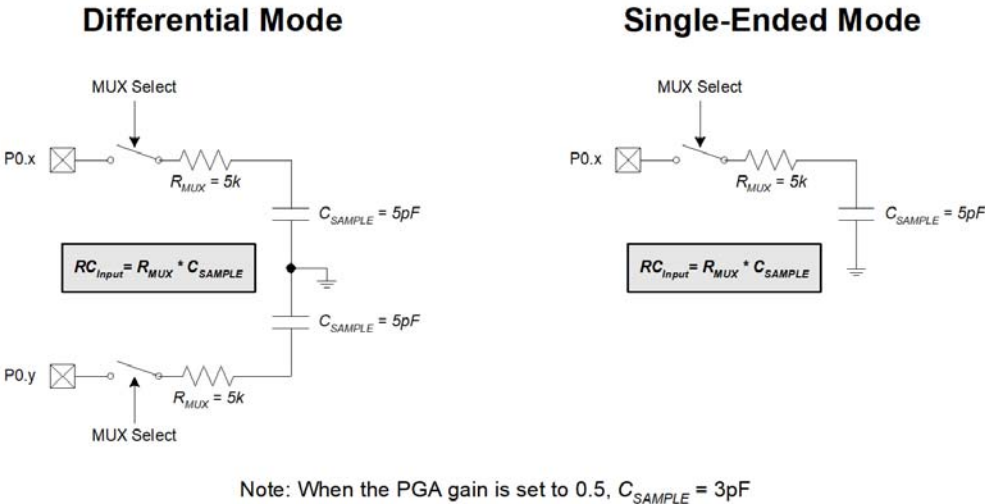

Figure 5.5. ADC0 Equivalent Input Circuits
Figure 5.5 shows the equivalent ADC0 input circuits for both Differential and Single-ended modes. Notice that the equivalent time constant for both input circuits is the same. The required ADC0 settling time for a given settling accuracy (SA) may be approximated by Equation 5.1. When measuring the Temperature Sensor output or  $V_{DD}$  with respect to GND,  $R_{TOTAL}$  reduces to  $R_{MUX}$ . See Table 5.1 for ADC0 minimum settling time (track/hold time) requirements.